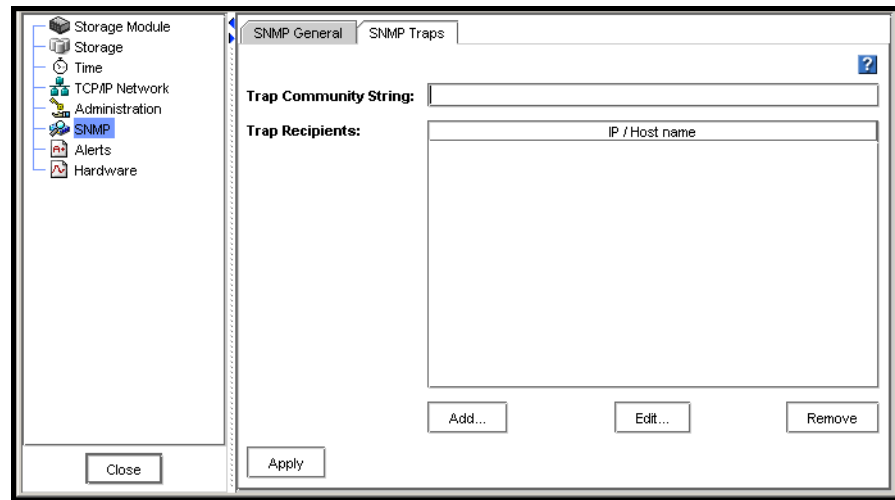

Figure 96. Enabling SNMP Traps
5. Select the SNMP Traps tab. The SNMP Traps window opens, shown in Figure 96.